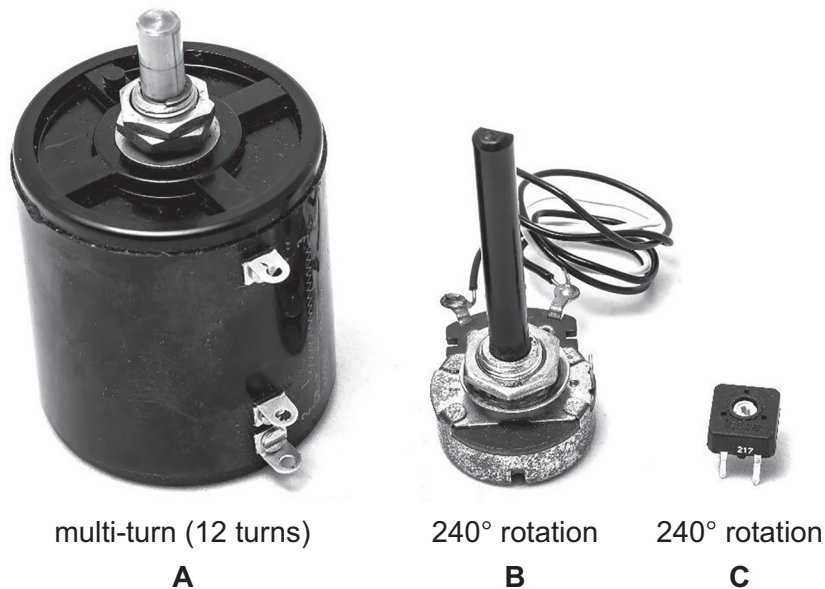

Fig. 12.4
- (v) Fig. 12.4 shows three different types of component that could be used for VR1.